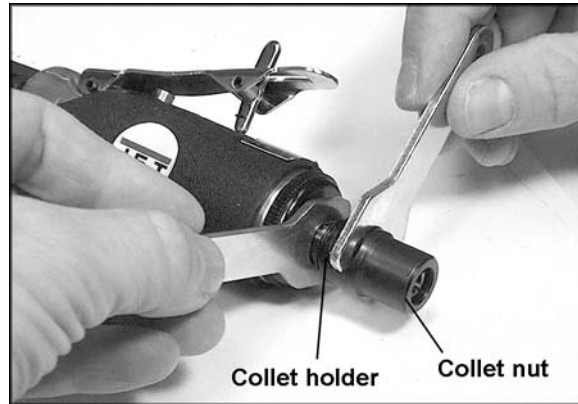

Figure 1
3. Loosen the collet nut using the two wrenches on the flats of the collet nut and collet holder (Figure 1). Keep the wrench on the collet holder stationary while turning the wrench on the collet nut.